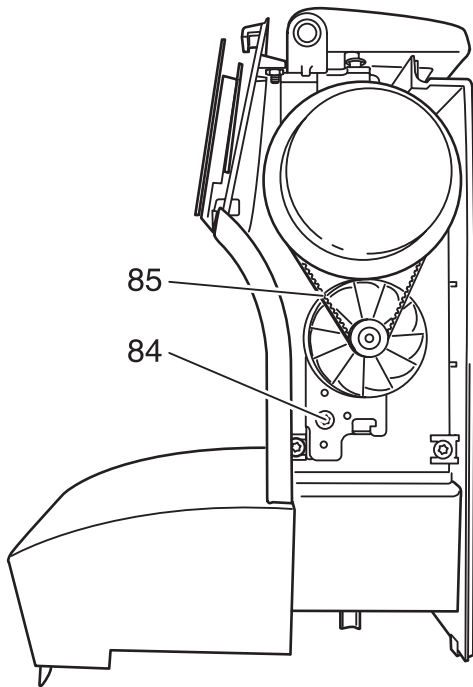

Fig. 101
- Unscrew and remove fastening screw 84 (fig. 101).
- Place flat-toothed belt on the handwheel (fig. 101).
- Insert the motor and place the motor pinion in toothed belt 85 (fig. 101).